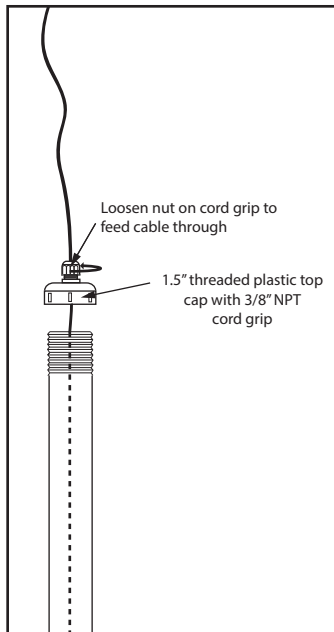

FIG. 25
- C) Feed cable up through pipe and insert into top cap/cord grip assembly. Make sure cord grip is loose when feeding cable through. See FIG 25.